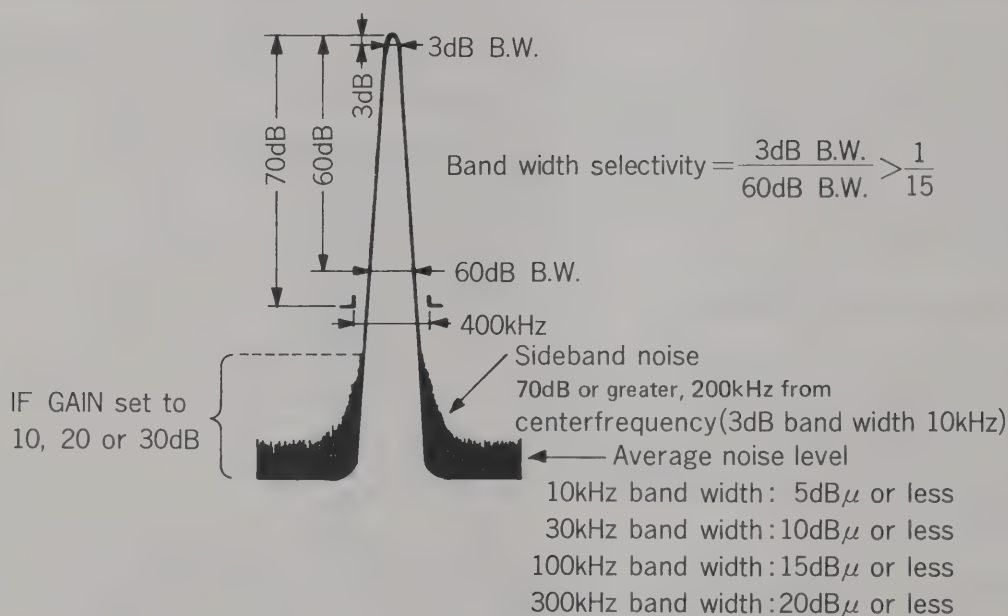

Figure 3.15 Separation of Signals of Different Amplitude
In addition to its bandwidth, the selectivity of an IF filter also determines what the frequency resolution will be. The selectivity of an IF filter is specified as the ratio of the 60 dB bandwidth to the 3 dB/6 dB bandwidth. The bandwidth selectivity of the ESA-1000 is 15 to 1, thus a frequency difference equal to 7.5 times the 60 dB IF bandwidth or greater is necessary to completely separate two signals with an amplitude difference of 60 dB. In conclusion, good selectivity indicates excellent ability to discriminate between signals of different amplitude levels (see Figure 3.15).
**3.5.3.4** In addition to IF bandwidth selectivity, sideband noise also affects the unit's ability to separate signals of different amplitude levels and adjacent frequencies. Sideband noise is the noise which appears on the skirts of an IF filter as shown in Figure 3.15 and influences the unit's frequency resolution when observing signals of different amplitude levels. The sideband noise of the ESA-1000 is specified as being 70 dB or more below the peak of a carrier signal at 200 kHz away from the center of the carrier for a 3 dB IF bandwidth of 10 kHz.